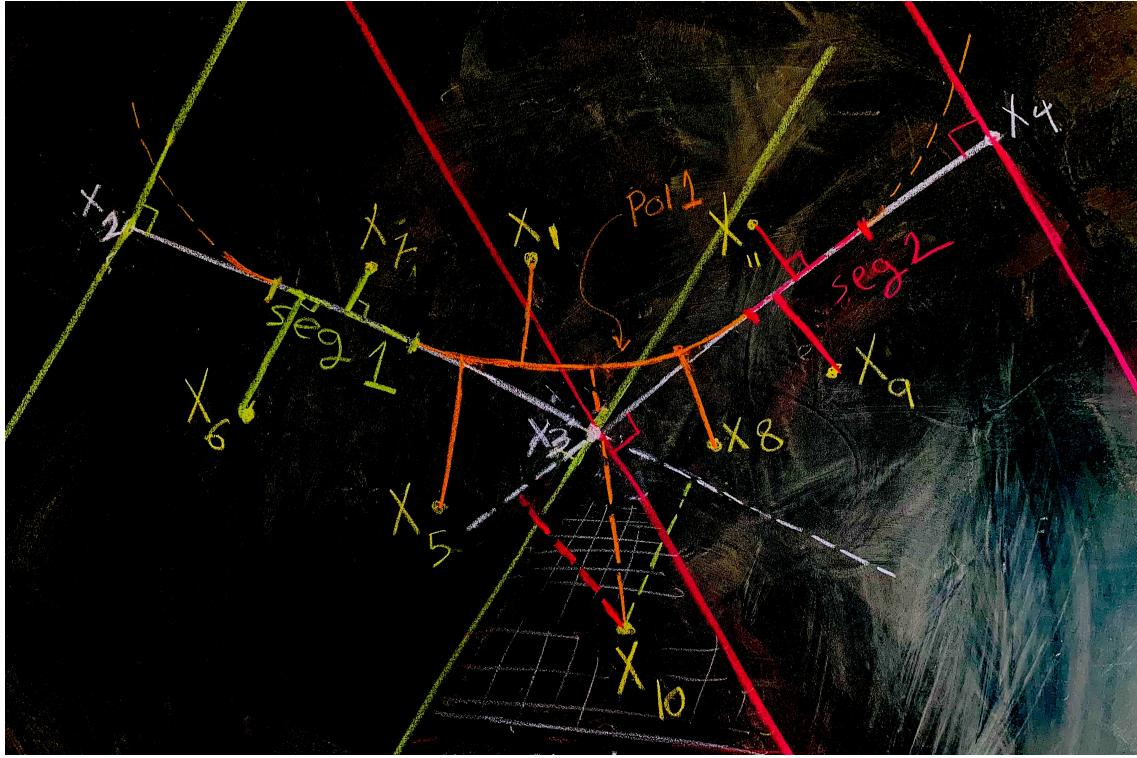

Figure 3: Point of closest approach (PCA) cases.
A key point of contact computation is to find the closest approach of a potential “contactor” slave node to a master mesh (particle). An outward penalty repulsion will then be applied if the signed gap g between the slave node \mathbf{X}_1 and the PCA on the master mesh surface $\bar{\mathbf{X}}$ is negative. Finding $\bar{\mathbf{X}}$ is the hardest part. Consider figure 3. A slave node could be in a position where its PCA, $\bar{\mathbf{X}}$, lies in the portion of the segment that is not included in the interpolation. Example of this are slave nodes \mathbf{X}_6 , \mathbf{X}_7 , \mathbf{X}_9 , and \mathbf{X}_{11} . Or it could be in a position where its normal lies in the interpolation, such as slave nodes \mathbf{X}_1 , \mathbf{X}_5 , \mathbf{X}_8 , and \mathbf{X}_{10} . A robust algorithm is required to consider all the possibilities.
Now going back to figure 3. Because parts of the segments are "replaced" by a polynomial, a slave node projection $\bar{\mathbf{X}}$ will have two cases:
For example, X_6 , X_7 , X_9 , and X_{11} in figure 3 all have a normal within the non interpolated parts of a segment. In this case, the algorithm will not look for the normal on the nearby interpolations as indicated by (6). For the second case, the algorithm will search for the PCA within one of the nearby polynomials. To avoid duplicity in searching, as each segment is associated with two polynomials, we constructed the code to look only in the right polynomial to the segment that satisfied the condition in (7).
Where we used that fact that $(\mathbf{X}_i - \mathbf{X}(\xi))$ is normal to the tangent vector of the interpolation curve at $\xi = \bar{\xi}$. Using equations (1) and (15), equation (13) can be written explicitly for a given interaction between a slave node X_1 and the three nodes X_2, X_3, X_4 of a master polynomial (figure 3) as:
Where j is the index of the slave node associated with the k -th contact, and $\hat{\mathbf{n}}$ is the unit outward normal to the master polynomial at point \mathbf{X} . The minus sign is needed because for active contacts (when there is interference) the vector $(\mathbf{X}_i - \mathbf{X})$ points in the opposite direction of the outward normal. Let's call the expressions on (19) and (20) KirkWoodXX and KirkWoodYY, respectively, and let's write them down for the four nodes associated with a given contact k (again, consider the one in figure 3 with X_1 being the slave node). Notice that $\text{KirkWoodXX}=\text{KirkWoodYY}=0$ if the node i is not one of the four nodes involved in the contact.